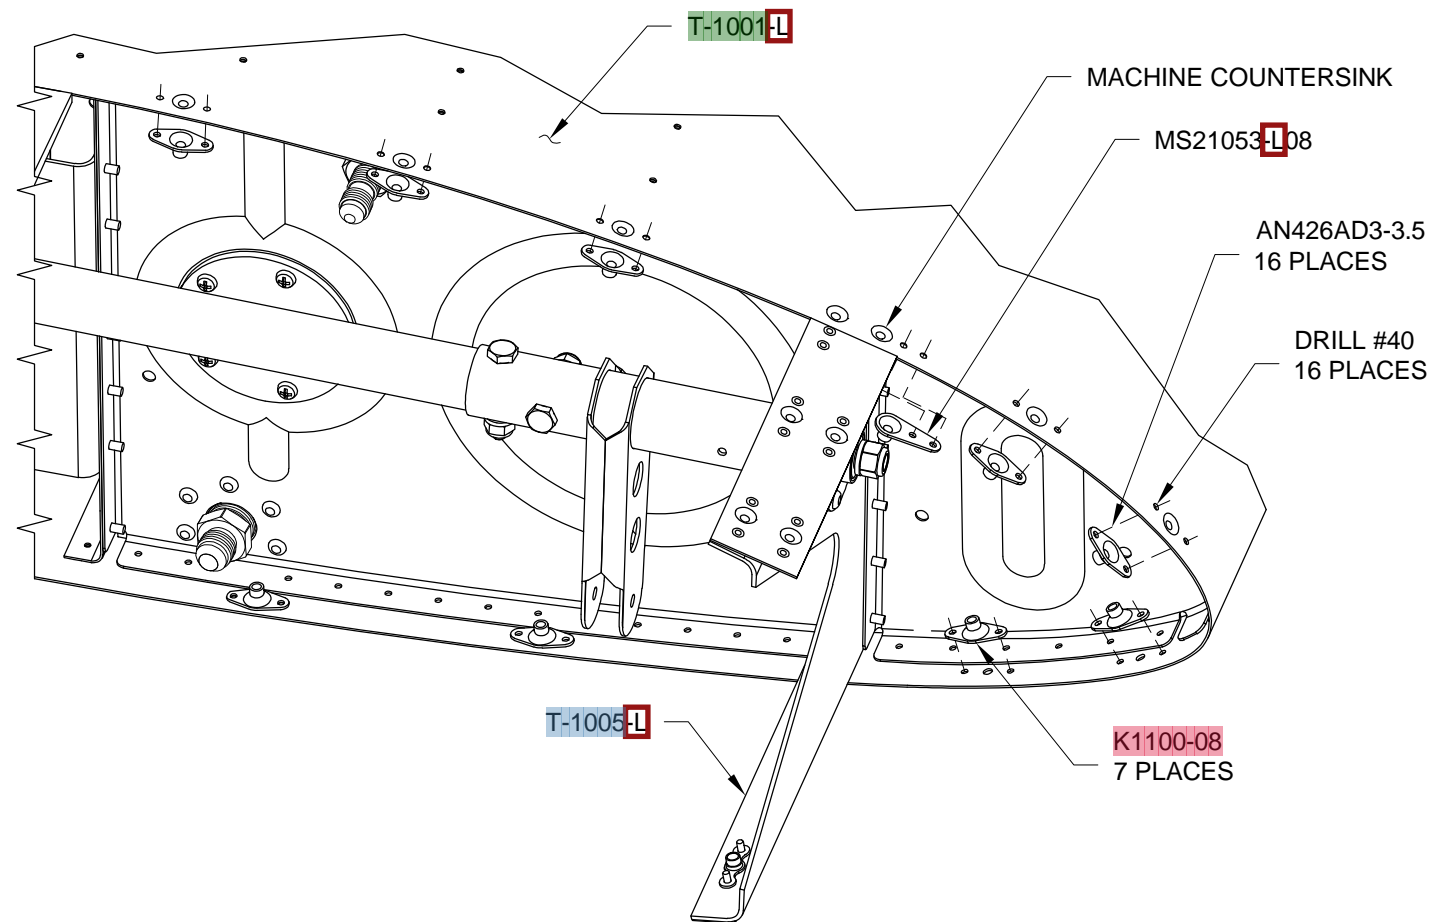

FIGURE 1:
Step 5: Final-Drill #40 and machine countersink the T-1001-L Fuel Tank Skin for the nutplate rivet attach holes as shown in Figure 1. Deburr and dimple the #19 screw holes in the tank skin. Rivet the nutplates to the fuel tank skin as per the callouts in Figure 1.